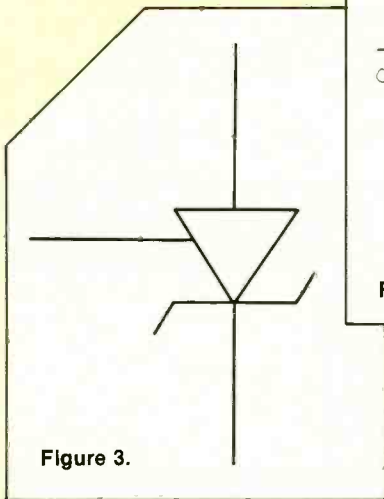

Figure 3.
3. Which of the following is true for the symbol in Figure 3?